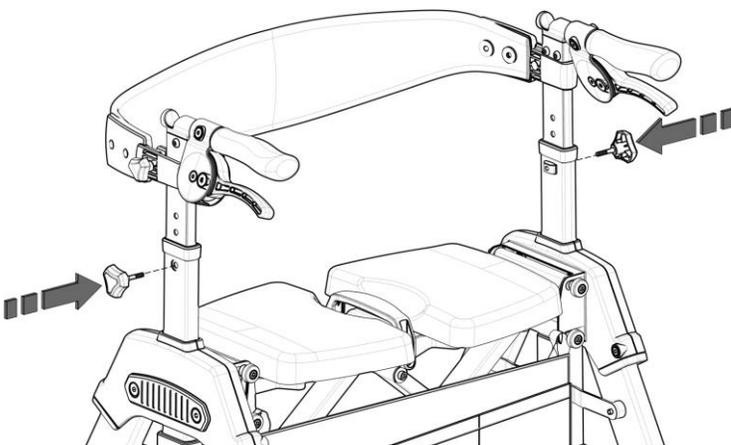

FIGURE 3
3. Handle height adjusts to 31"-38". Unscrew knobs, adjust handles to desired height, align holes and retighten knobs as shown in *FIGURE 3*.